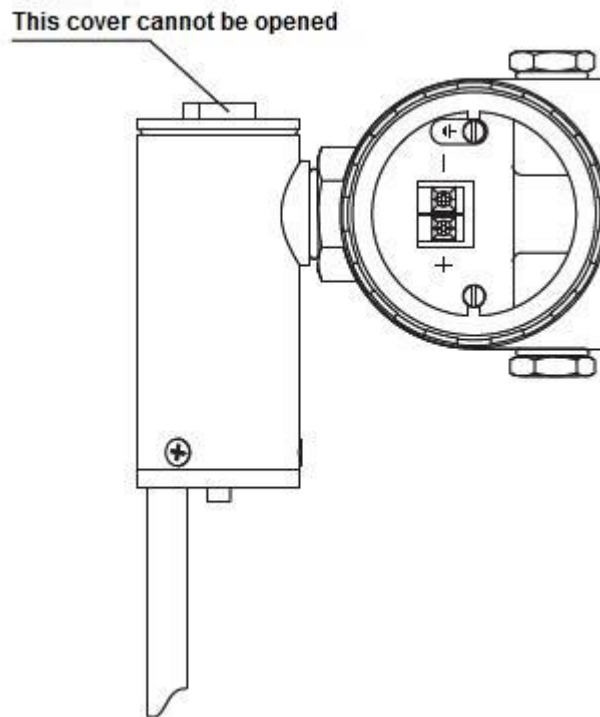

Figure 5
7.2.1 Unscrew the power terminal box cover, wiring according to Figure 5, internal grounding wire to armor cable outer armor (if any).